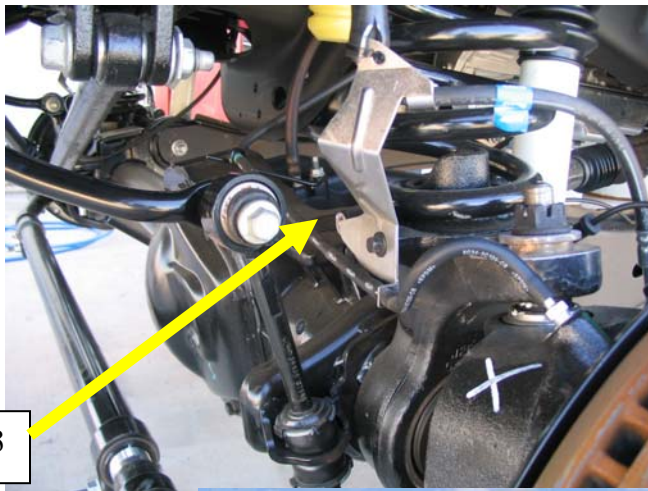

Fig. 3
10. Lift axle back up and install the brake line bracket (Fig.3) and reconnect sway bar end links.